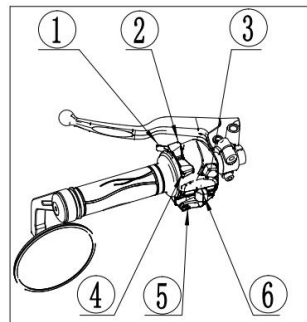

Fig8 Left switch combination
4.5 Left switch combination (Fig8)
- ① Overtaking light switch
- ② ABS function switch
- ③ High and low beam switch
- ④ TCS function switch
- ⑤ Horn switch
- ⑥ Turn signal switch